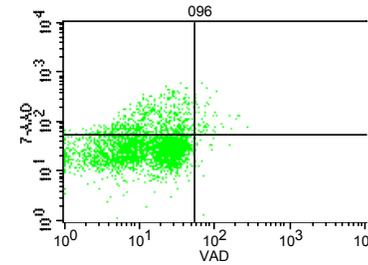
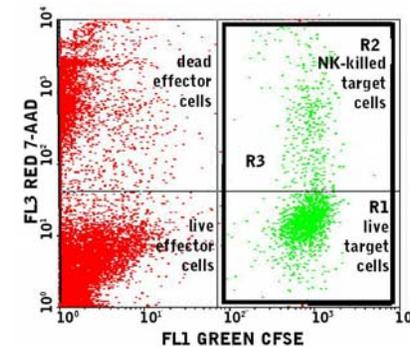

Figure 9: Control H, non-induced target cells combined with effector cells and stained with everything (FL2 vs. FL3).
Figure 10: Identify all target cells and gate R1 and R2 as R3.
9. When running your sample tubes after the controls have been run and compensation set, first gate the CFSE-stained target cells (FL1, R3 in Figure 9). From within this pool of target cells, prepare a dot plot of SR-FLICA™ (FL2) vs. 7-AAD (FL3) (Figure 10) to identify the four stages of cellular death:
**Control H:** Run a control of CFSE-stained target cells (non-induced) with effector cells and stained with SR-FLICA™ and 7-AAD, Figure 9. You may need to readjust quadrant; create negative and positive populations quadrant cut off based. This control will also reveal the levels of spontaneous death and apoptosis in your non-induced cells.
- From the sample data, create a plot of FL1 (CFSE) vs. FL3 (7-AAD), and create a gate on the target cell population, R3 (R1+R2=R3) (Figure 10).